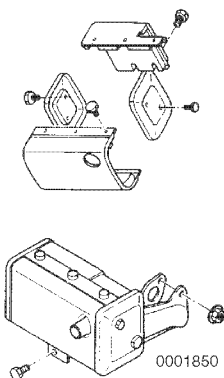

Figure 6-104
16. Install the exhaust muffler (**Figure 6-104**).